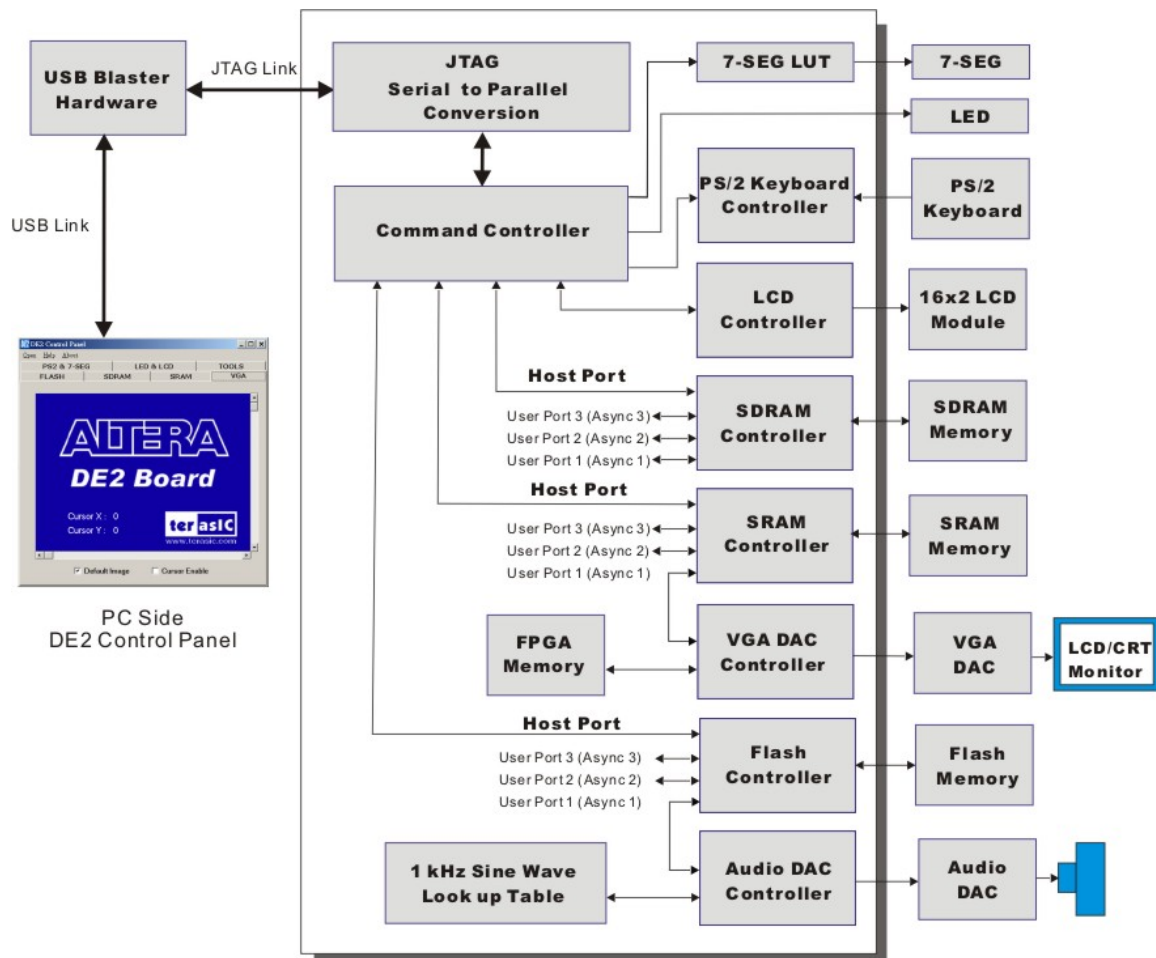

Figure 3.7. The DE2 Control Panel block diagram.
To run the Control Panel, the user must first set it up as explained in Section 3.1. Figure 3.7 depicts the structure of the Control Panel. Each input/output device is controlled by a controller instantiated in the FPGA chip. The communication with the PC is done via the USB Blaster link. A Command Controller circuit interprets the commands received from the PC and performs the appropriate actions. The SDRAM, SRAM, and Flash Memory controllers have three user-selectable asynchronous ports in addition to the Host port that provides a link with the Command Controller. The connection between the VGA DAC Controller and the FPGA memory allows displaying of the default image shown on the left side of the figure, which is stored in an M4K block in the Cyclone II chip. The connection between the Audio DAC Controller and a lookup table in the FPGA is used to produce a test audio signal of 1 kHz.
3. Select the Asynchronous 1 port for the Flash Multiplexer and then click on the **Configure** button to activate the port. You need to click the Configure button to enable the connection from the Flash Memory to the Asynchronous Port 1 of the Flash Controller (indicated in Figure 3.7).
6. Note that the Asynchronous Port 1 is connected to the Audio DAC part, as shown in Figure 3.7. Once you selected Asynchronous Port 1 and clicked the Configure button, the Audio DAC Controller will communicate with the Flash memory directly. In our example, the *AUDIO_DAC* Verilog module defines a circuit that reads the contents of the Flash memory and sends it to the external audio chip.